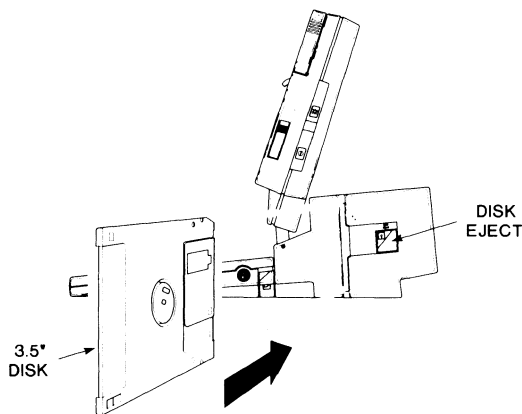

Figure 2-12. Inserting a Disk
2. Insert the floppy disk into the floppy disk drive (drive A), as shown in Figure 2-12. Be sure the disk is oriented properly, with the label toward you. Slide the floppy disk all the way into the drive until you hear it click into place. You are now ready to boot your computer.